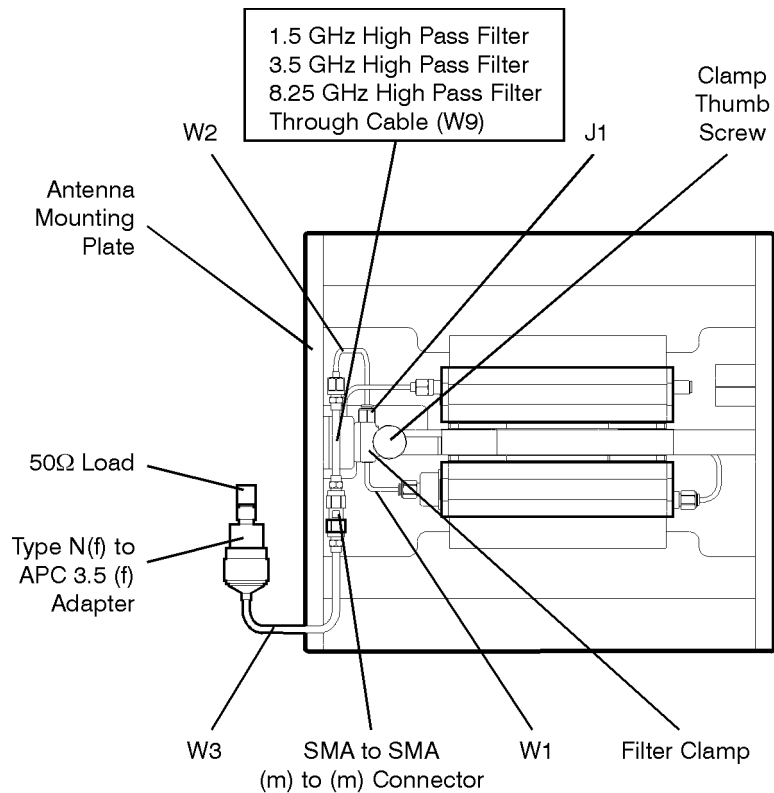

Figure 3-7. DANL Measurement Setup, 1 to 18 GHz
1. Connect equipment as shown in Figure 3-7.